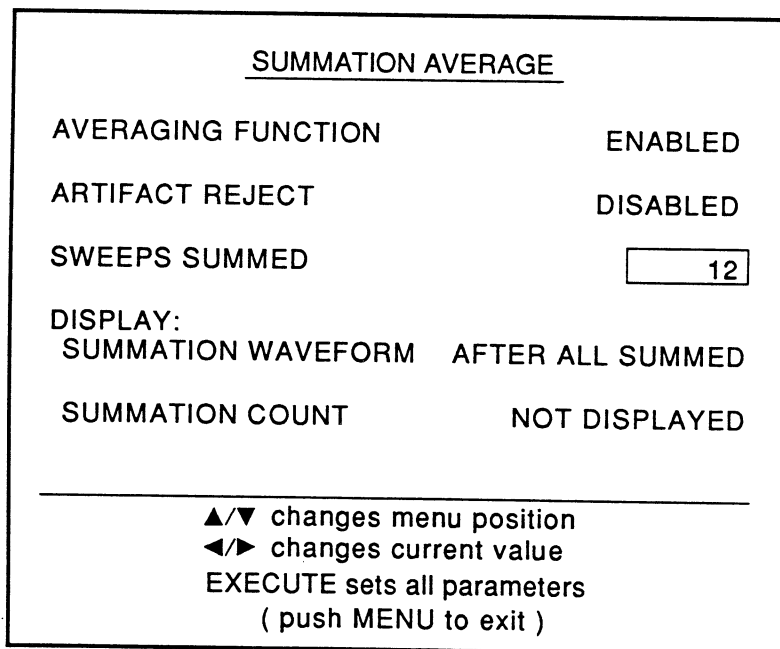

Figure 2 - Summation Average parameters screen
2. Use the **CURSOR** buttons to enable Averaging Function and, if desired, Artifact Reject. Next, use the **CURSOR** buttons to select Sweeps Summed and enter the desired number of sweeps (Figure 2). The minimum is 2 and the maximum is 65535 sweeps.